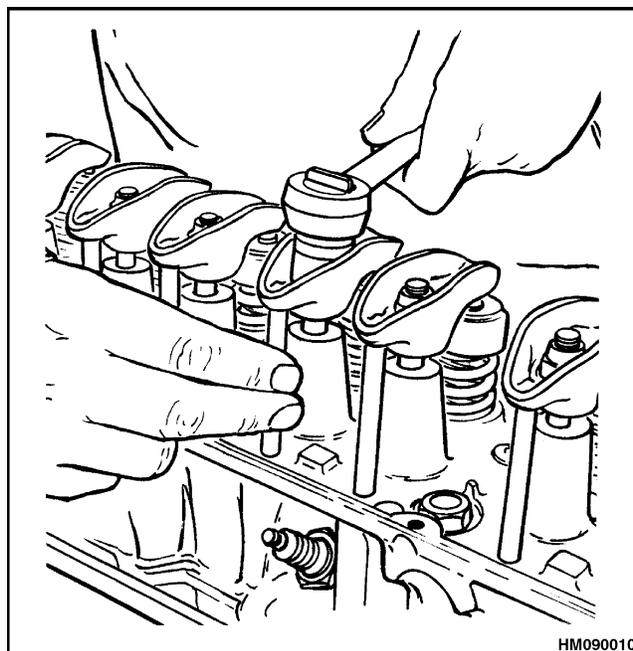

Figure 10. Valve Clearance Adjustment
3. Remove the distributor cap. Turn the crankshaft until the rotor is aligned over the mark for the number one cylinder. Now adjust both valves for the number one cylinder. Tighten the nut for the rocker arm while turning the push rod with your fingers as shown in Figure 10. Tighten the nut just until the movement of the push rod stops. This condition is zero clearance. Now tighten the nut one more turn.